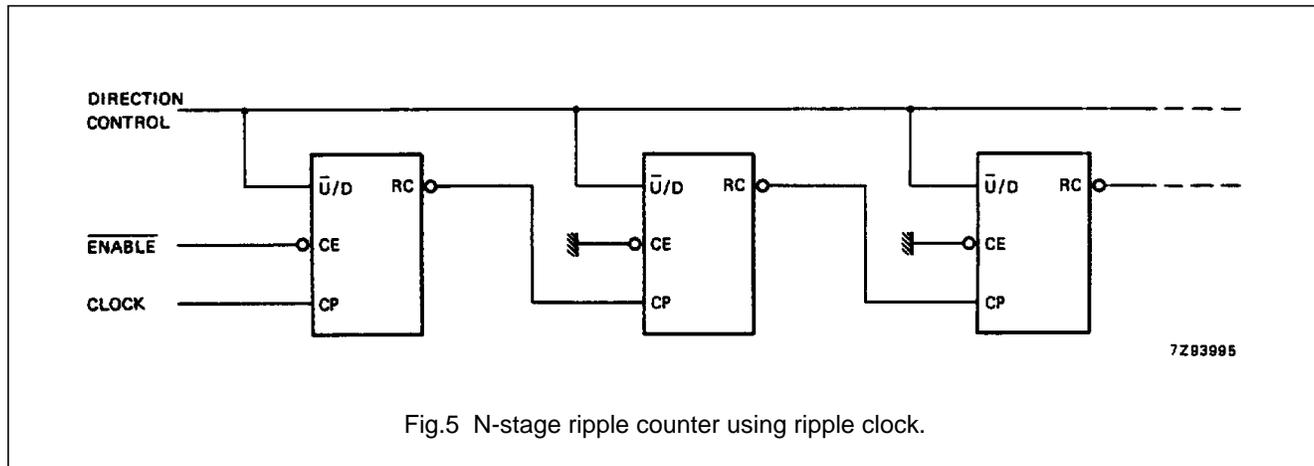
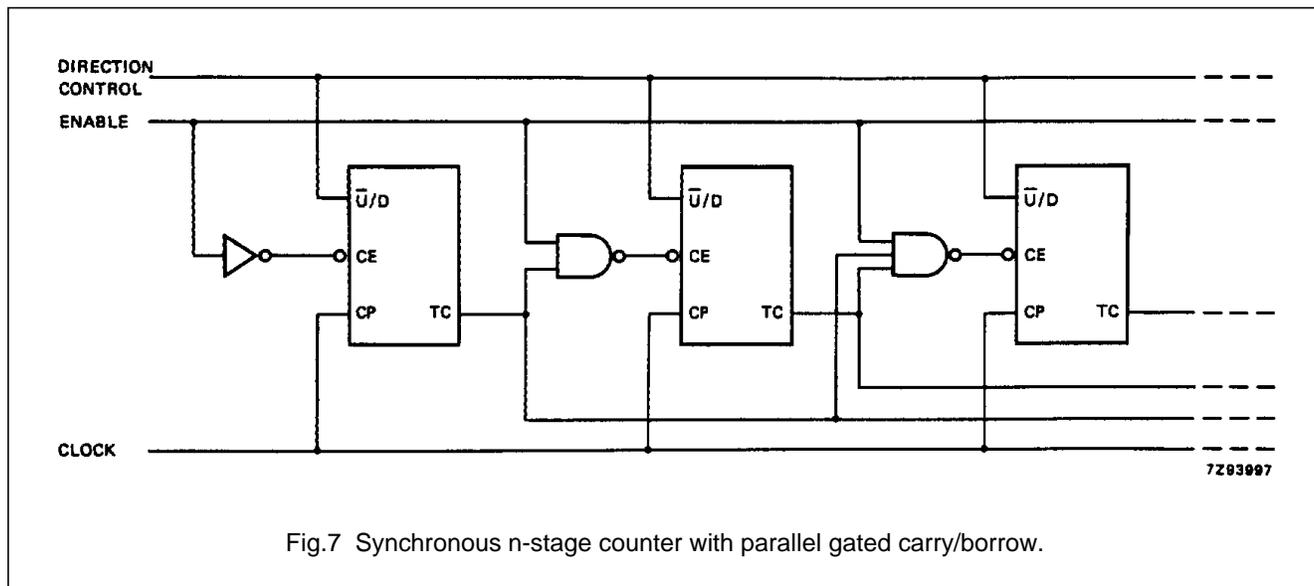

Fig.5 N-stage ripple counter using ripple clock.
Fig.7 Synchronous n-stage counter with parallel gated carry/borrow.
Overflow/underflow indications are provided by two types of outputs, the terminal count (TC) and ripple clock (\overline{RC}). The TC output is normally LOW and goes HIGH when a circuit reaches zero in the count-down mode or reaches "15" in the count-up-mode. The TC output will remain HIGH until a state change occurs, either by counting or presetting, or until $\overline{U/D}$ is changed. Do not use the TC output as a clock signal because it is subject to decoding spikes. The TC signal is used internally to enable the \overline{RC} output. When TC is HIGH and \overline{CE} is LOW, the \overline{RC} output follows the clock pulse (CP). This feature simplifies the design of multistage counters as shown in Figs 5 and 6.
In Fig.5, each \overline{RC} output is used as the clock input to the next higher stage. It is only necessary to inhibit the first stage to prevent counting in all stages, since a HIGH on \overline{CE} inhibits the \overline{RC} output pulse as indicated in the function table. The timing skew between state changes in the first and last stages is represented by the cumulative delay of the clock as it ripples through the preceding stages. This can be a disadvantage of this configuration in some applications.
In Fig.7, the configuration shown avoids ripple delays and their associated restrictions. Combining the TC signals from all the preceding stages forms the \overline{CE} input for a given stage. An enable must be included in each carry gate in order to inhibit counting. The TC output of a given stage is not affected by its own \overline{CE} signal therefore the simple inhibit scheme of Figs 5 and 6 does not apply.